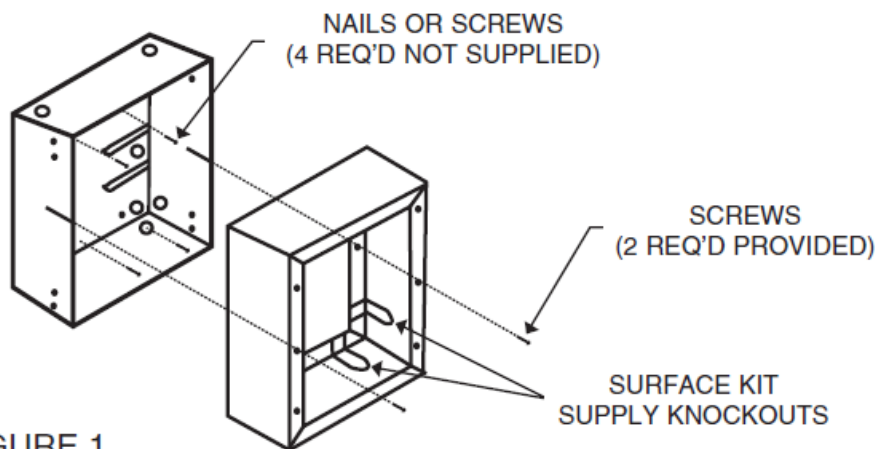

FIGURE 1
2. If power supply is provided from inside wall, remove knockout in back of backbox, install cable clamp leaving at least 8 inches (203 mm) of cable inside back box. Secure back box to building structure using (4) holes in back box. (See Figure 1).
(See Figure 1).
4. If supply is by surface system, remove the clearance knockout in surface frame so frame will slide over supply. (See Figure 1).